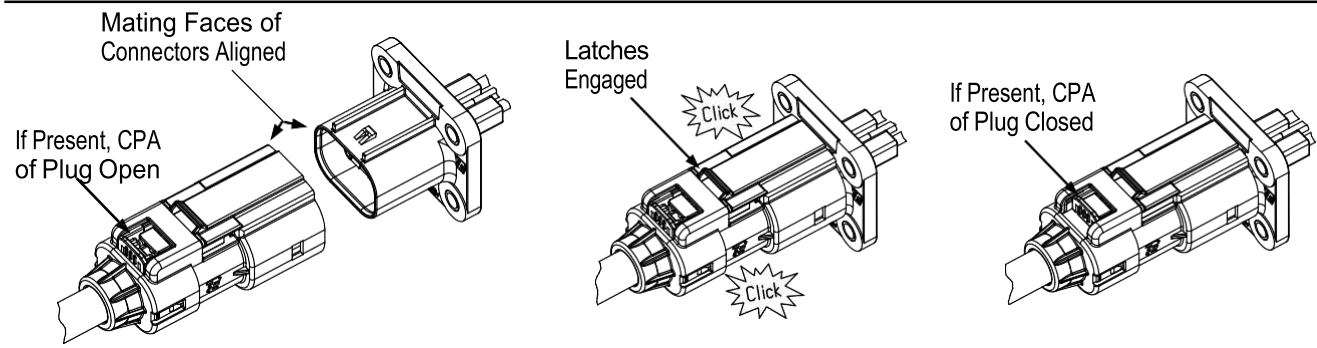

Figure 4
2. Align the mating faces of the plug and header, then push the connectors together until the latches engage. Note that there are two latches (primary and secondary); therefore, there will be two audible clicks when the connectors are fully mated. See Figure 4.
3. Pull lightly on the plug to verify that the connectors are fully latched. Then, if present, seat the CPA of the plug by pushing it toward the header. See Figure 4.